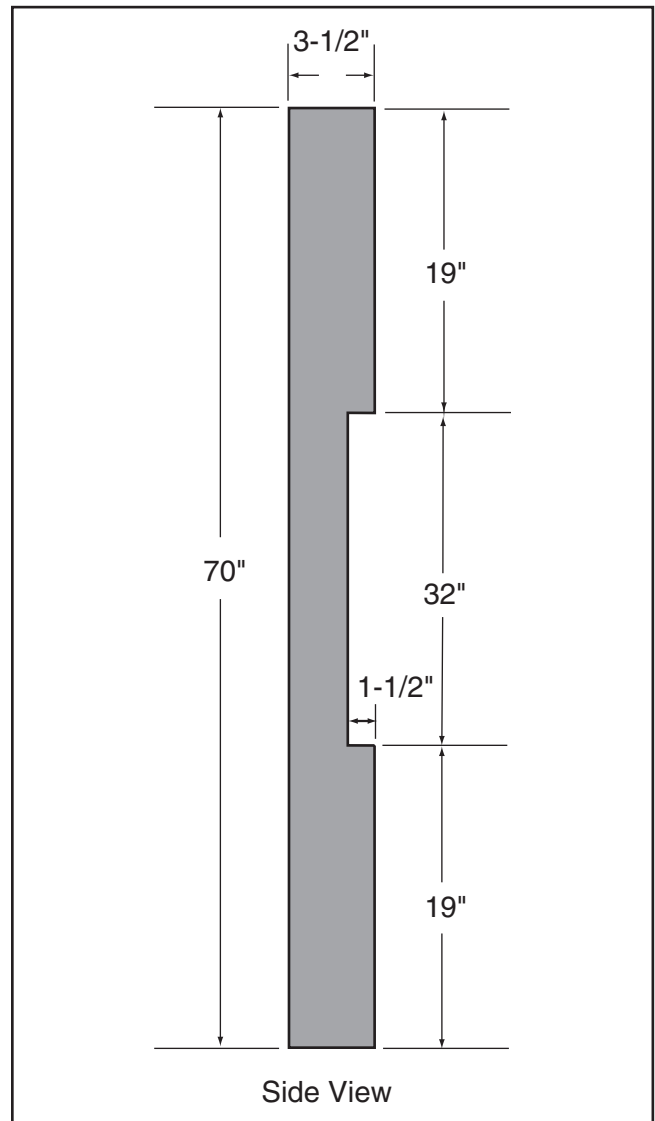

Figure 81. Dimensions of coplanarity gauge.
1. Make the "Coplanarity Gauge" shown in **Figure 81**.